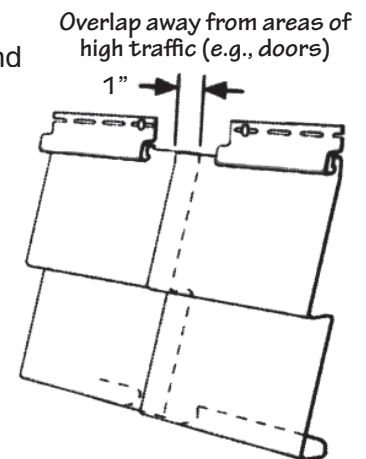

Figure 37.
- When panels overlap, make sure they overlap by one half the length of the notch at the end of the panel, or approximately 1" (25.4mm) (Fig. 37).
- Always overlap joints away from entrances and away from the point of greatest traffic. This will improve the overall appearance of the installation (Fig. 37).